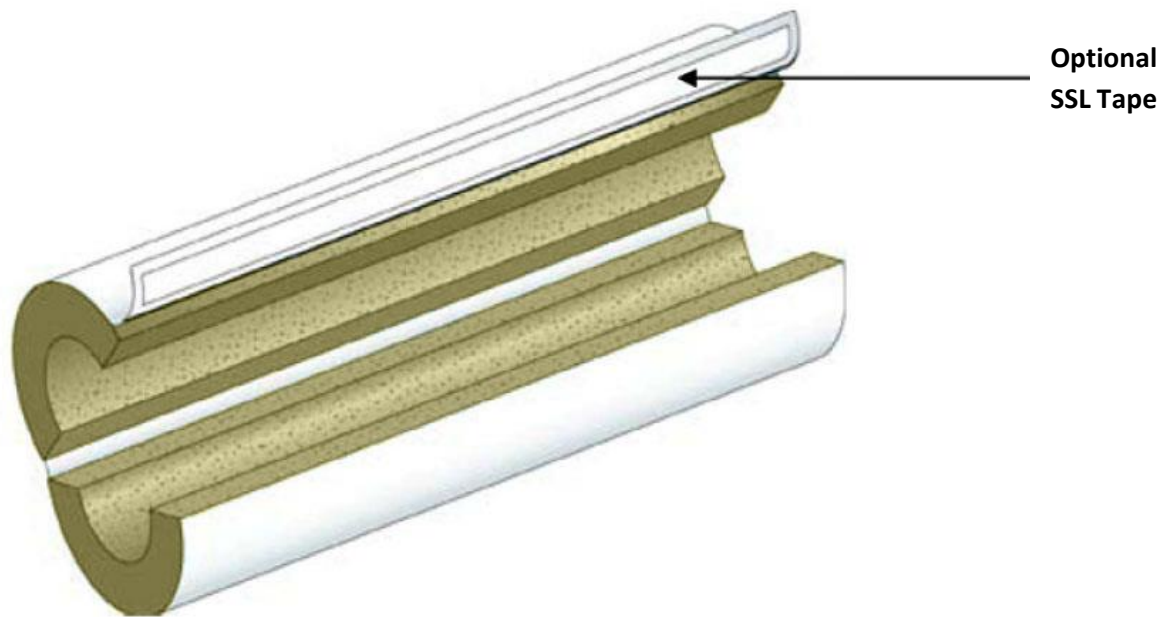

Figure 7
- 4.1.17 On factory applied Saranex Vapor Retarder Film, lap joint to be sealed with SSL tape. All vapor retarder surfaces should be cleaned and free of dust, grease, oil, etc. before application of the SSL tape to ensure good adhesion between the tape and vapor retarder. Refer to Figure 7 in Appendix. For other types of factory applied vapor retarders, consult manufacturer's recommendations on installation.